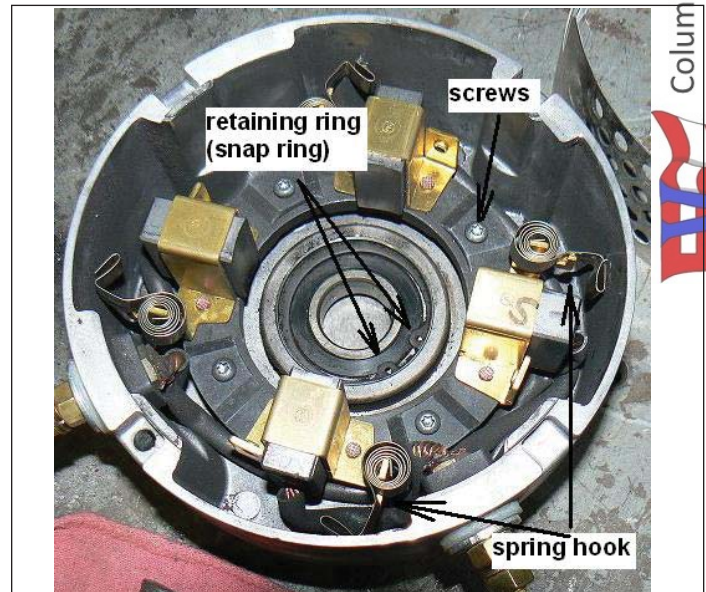

Figure 10-5. Spring Hooks for Brush Springs
- Move brush springs behind spring hooks shown in Figure 10-5.
- Remove bearing retainer (snap ring) shown in Figure 10-5. Carefully press out the bearing from motor head. Replace the bearing.